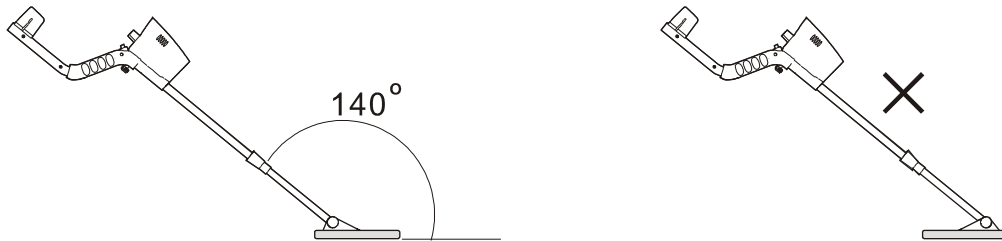

Figure.8
- Lay the search coil properly, keep the angle between search coil and aluminum stem is about 140° . Please note not to mistake it (Figure.8)